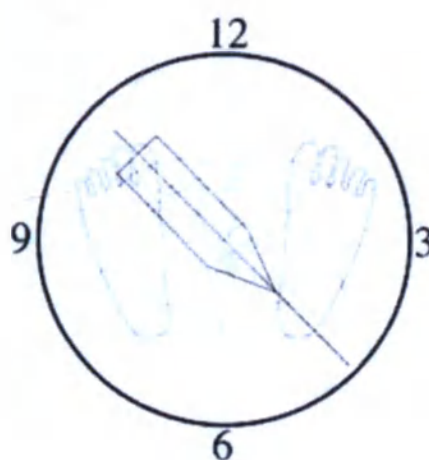

Fig. 4
- Adjust the needle pointer so that the needle is perpendicular to the fossa ovalis (typically between 3:00 and 5:00 o'clock, as viewed from the foot end of the patient). (See Fig.4. Magnification is 2.9).